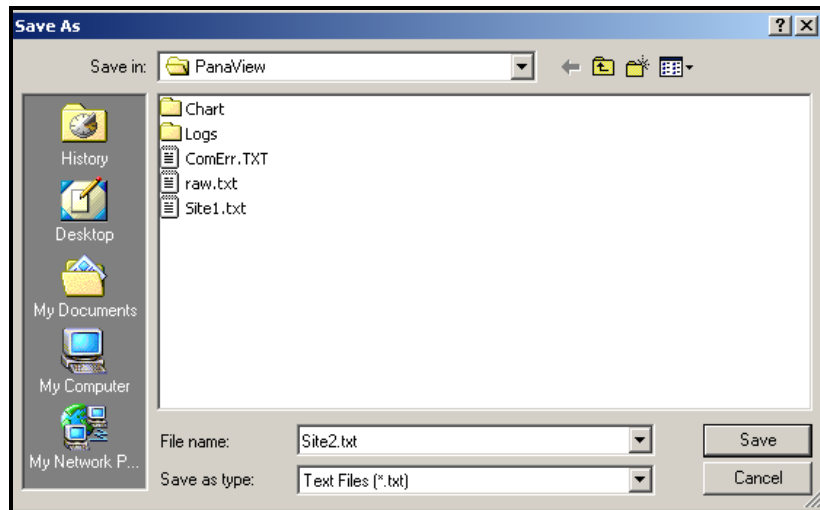

Figure C-13: Save As Window
Saving Transducer Signals To *save* the raw signal, click *Save*. A window opens similar to the one shown in Figure C-13 below. Enter the desired name, and click *Save* to save the signal as a text file.
2. Click *Save Site to PC*. A window opens similar to Figure C-13 on page C-11.